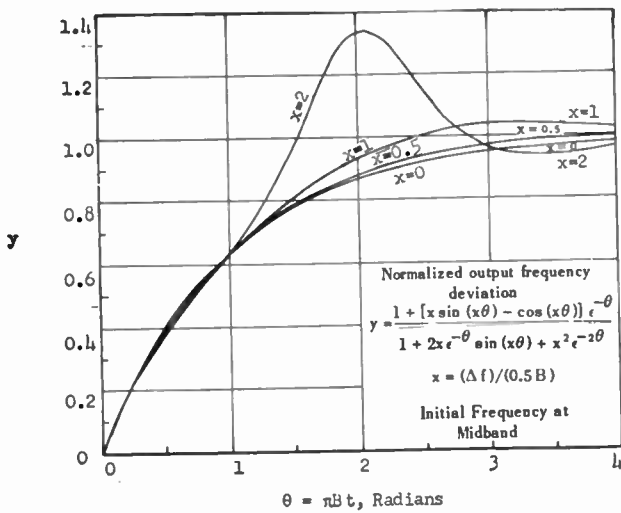
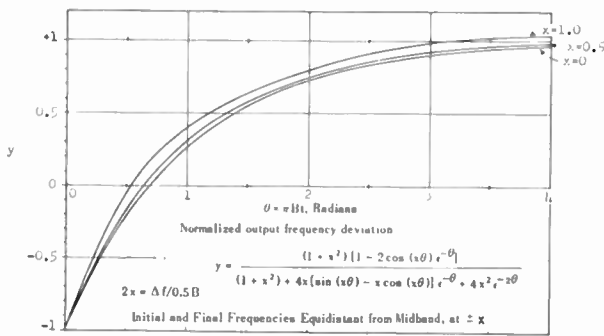

Fig. 2—Response of a single tuned circuit to a rectangular-step frequency shift, starting at midband frequency.
Fig. 4—Response of a single tuned circuit to a rectangular-step frequency shift, centered at midband frequency.
If there were no transient distortion, the normalized output frequency deviation y would be simply a rectangular step of unit amplitude. Actually, it is a rounded step, with shape depending on the relative frequency shift x , as shown in Fig. 2.
This case is plotted in Fig. 4. As may be seen by comparison with Fig. 2 and 3, the transient distortion is of a character intermediate between those found in the two previous cases, where the shift was all on one side of midband. While approaching midband, the output frequency rises steeply, as in Example 2, but after passing midband it follows a curve more like that of Example 1, and shows a similar tendency to overshoot when the frequency shift is large. For a given frequency shift, however, the overshoot is less than in Example 1; and the change of step shape with increasing frequency shift is more gradual than in Example 1. Gold⁷ has reported similar results, with minor differences which are apparently due to errors in numerical computation or plotting, since the (unpublished) formula he used was exactly equivalent to (21).